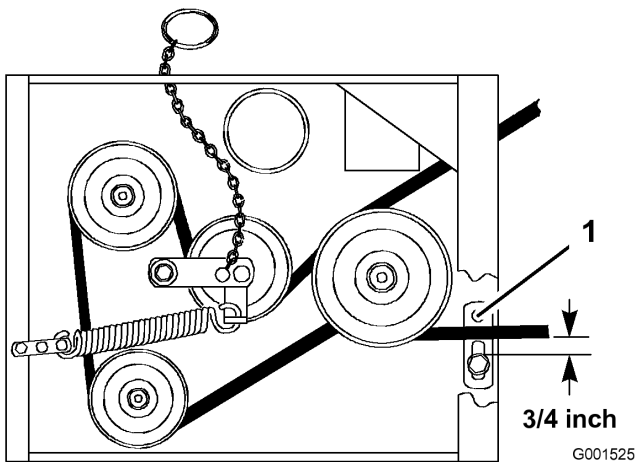

Figure 50
13. Check the belt guide under the engine frame for proper adjustment (Figure 50).
Note: The distance between the belt guide and the mower belt should be 3/4 inch (19 mm) when you engage the mower belt (Figure 50). Adjust the mower belt as necessary. The disengaged belt should not drag or fall off the pulley when the guides are properly adjusted.